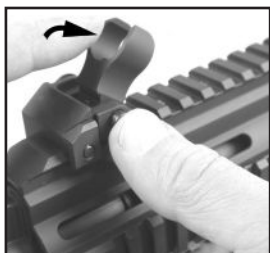

Fig. 12 – Folding (lowering)
2. Apply one drop of thread locking compound to the exposed threads of the clamping screw. Replace the clamping plate and tighten the clamping screw while pushing sight forward against the cross-slot (Fig. 11). To raise the sight, grasp and pull up until the sight locks in the upright position. To fold the sight, depress the button on the left side of the base and fold down. (Fig. 12)